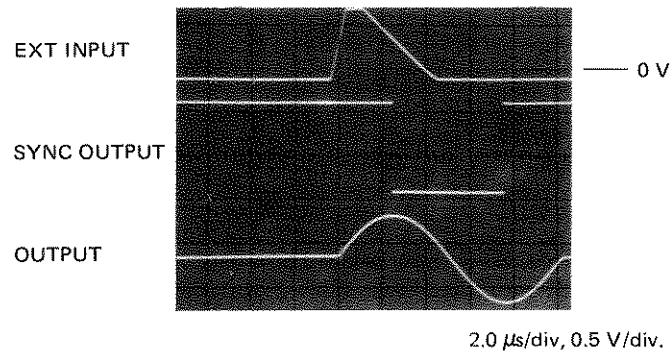

Figure 4-10. Example of correct trigger operation
4. Set 8165A to TRIG mode. Verify that each trigger pulse generator one complete output cycle (Figure 4-10).